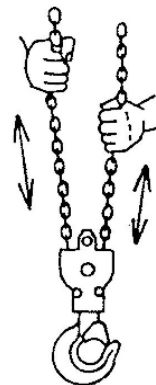

Fig. 14
**See Chapter V 1. Load Chain & Chapter IX 2. (2) Inspection of Load Chain and Service Limit.**
- (2) Keep Load chain clean and well lubricated.
- (3) Check Load hook is not stretched or damaged and hook latch is in the normal position.
- (4) Check the Chain wheel in bottom hook block operates smoothly (Fig. 14 ).
- (5) Check the support bearing of bottom hook is not damaged, and rotates easily and smoothly.
- (6) Check the trolley wheels track on the rails properly and the wheels and rails are not worn.
- (7) Check the lifting sling is not damaged or worn and properly engaged into the bottom hook.